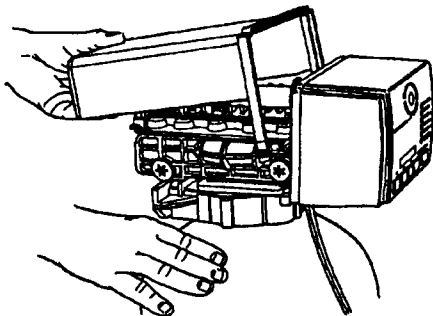

Figure 2
3. Remove the rear cover by pushing back on the tab provided on the cover. Next, lift the rear cover off the valve, Figure 2.
2. Remove the rear cover by pulling back on the tab provided on the cover. Next, lift the rear cover off the valve, Figure 2.